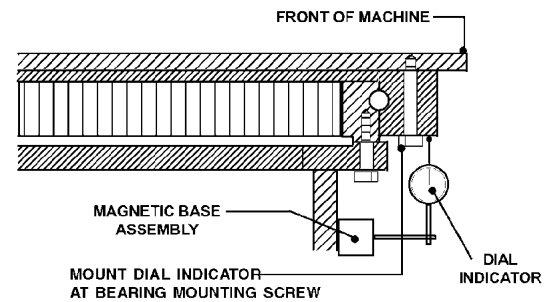

FIGURE 4.12
2. Attach dial indicator to the mounting area of swing bearing at the location of a swing bearing mounting bolt. See Figure 4.12.